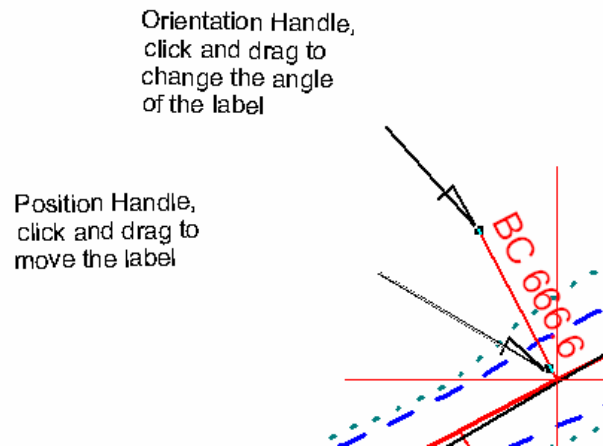

Figure 8.2: Selected Label with Edit Handles Visible
7. Move your mouse cursor over the red *BC 666.6* label, when the cursor changes to a simple cross left click once. The label is now *selected* and should look like the one in Figure 8.2.